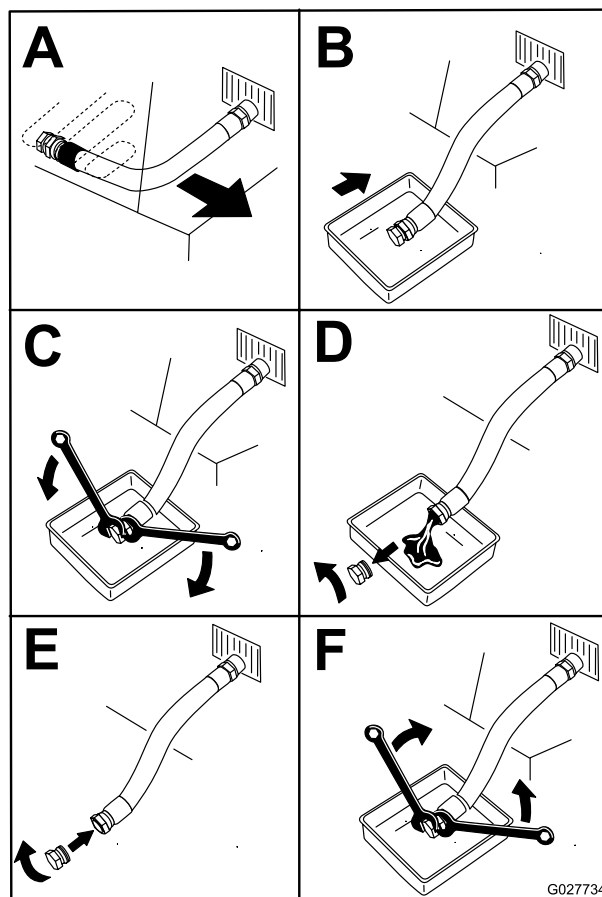

Figure 48
3. Stop the engine, remove the key, and wait for all moving parts to stop before leaving the operating position (Figure 48).